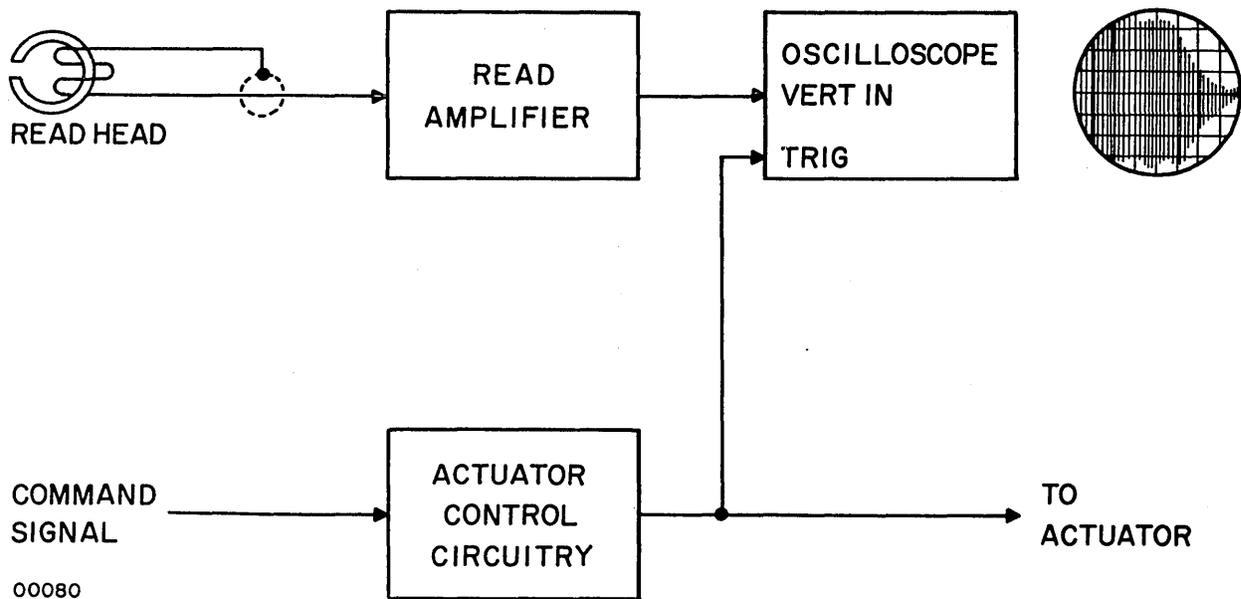

Figure 5-2. Test Setup, Stop Time Measurement
5-13. CHECKOUT FOR STOP TIME. Stop time is defined as that interval following a stop command until tape motion across the read/write head ceases. The equipment used to check start time is also used to check stop time, except that the discriminator is not used. The equipment is connected as shown in Figure 5-2.
Step 2: Observe decay time of signal displayed on oscilloscope. Decay time should be less than 2.5 msec. A typical waveshape is shown in Figure 5-2.